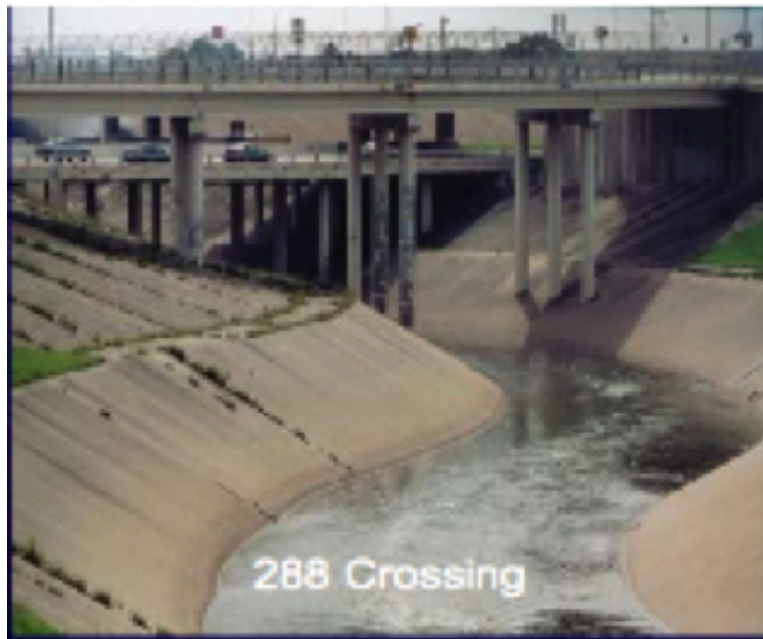

Figure 1: Braes Bayou at SH288
3. (10 points) Which kind of system is depicted in Figure 1? Explain your reasoning.